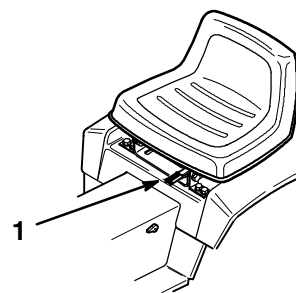

Figure 12
1. To adjust move the lever sideways to unlock seat (Fig. 12).